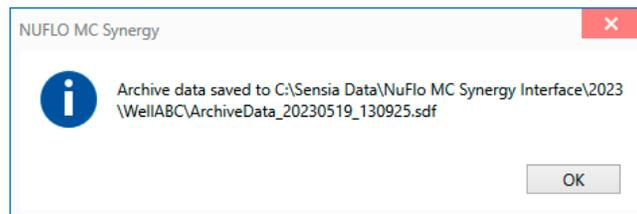

Figure 9.4—Downloaded archive file (SDF)
2. Click OK to acknowledge the confirmation dialog upon completion of the archive data transfer (Figure 9.4, page 83). The resulting file will have a proprietary .sdf format, readable only with Sensia ScanData software.